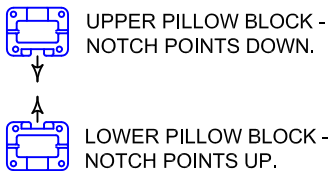

Figure 2
ATTACH LOWER PILLOW BLOCK ② TO JAMB, NOTCH SIDE UP (See Figure 2), WITH SINGLE FASTENER (DO NOT TIGHTEN).